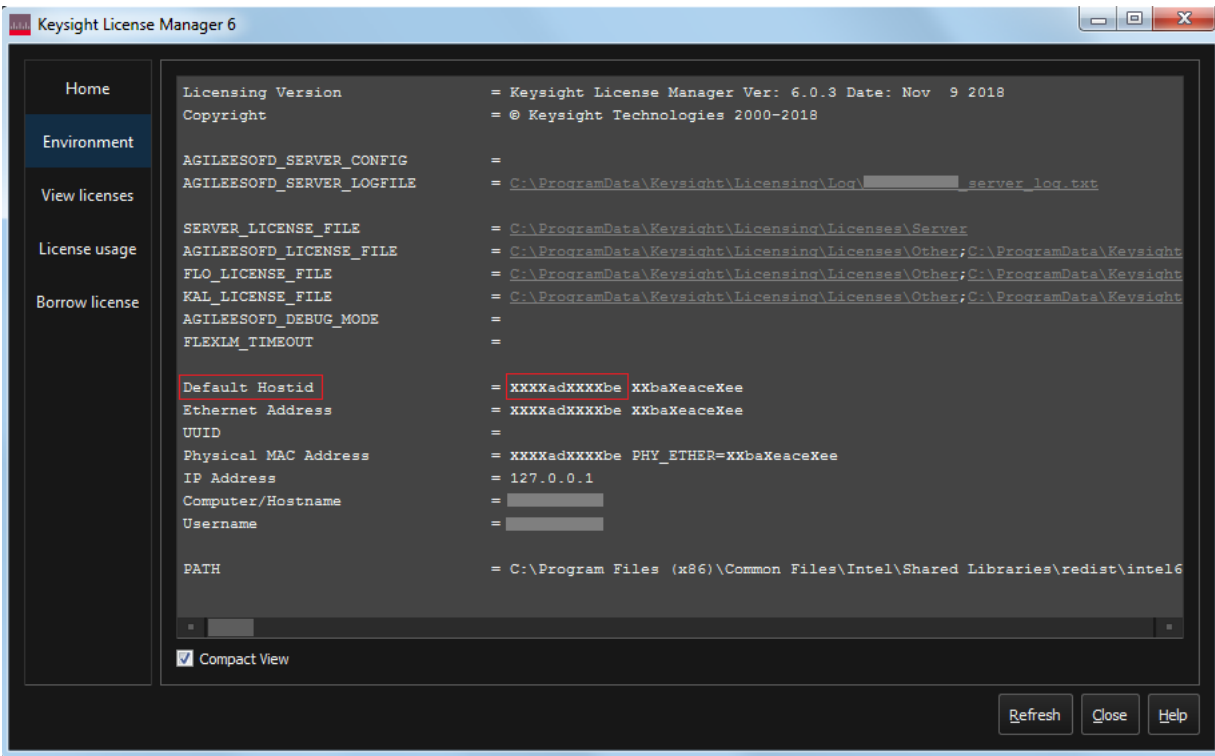

Figure 3 Viewing the Host ID information in Keysight License Manager 6
- 2 Copy the Host ID, which is the first set of alphanumeric value (as highlighted in **Figure 3**) that appears in the Environment tab of the application. Note that x indicates numeric values.